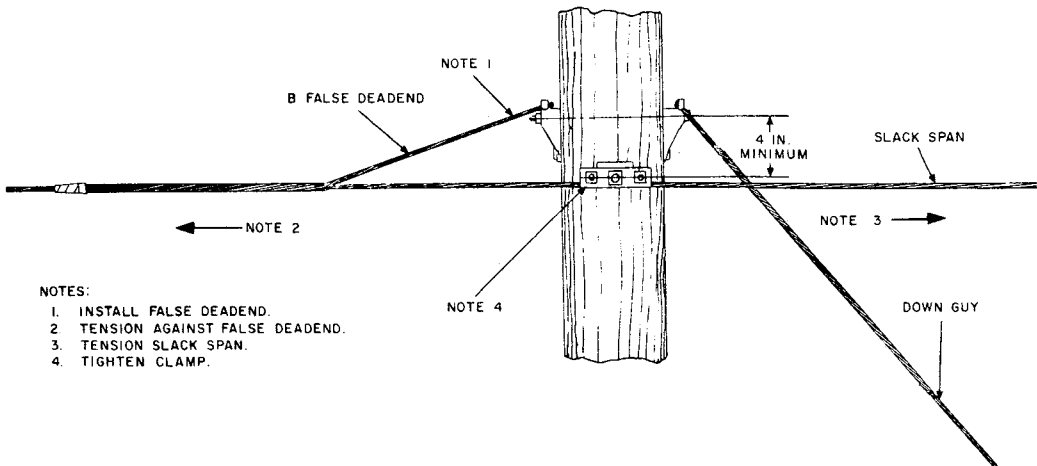

Fig. 2—False Deadend (Slack Span)
1.07 A representative installation of a false deadend and the *proper sequence for tensioning strand at a slack span location* is illustrated in Fig. 2.